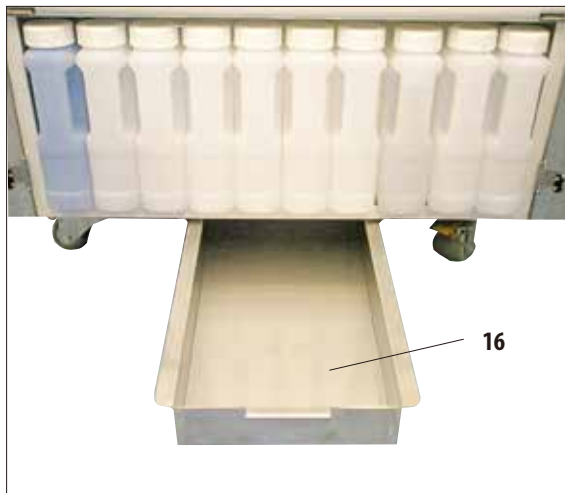

Fig. 53
- The drip tray (16) is located below the reagent cabinet. It collects reagents that have overflowed or spilled so that no pollution can form in or under the instrument. The volume is approx. 5 l.
- The drip tray (16) must be regularly checked for signs of reagents that have leaked. To do so, pull the tray out by the handle (Fig. 53) and empty it if necessary.